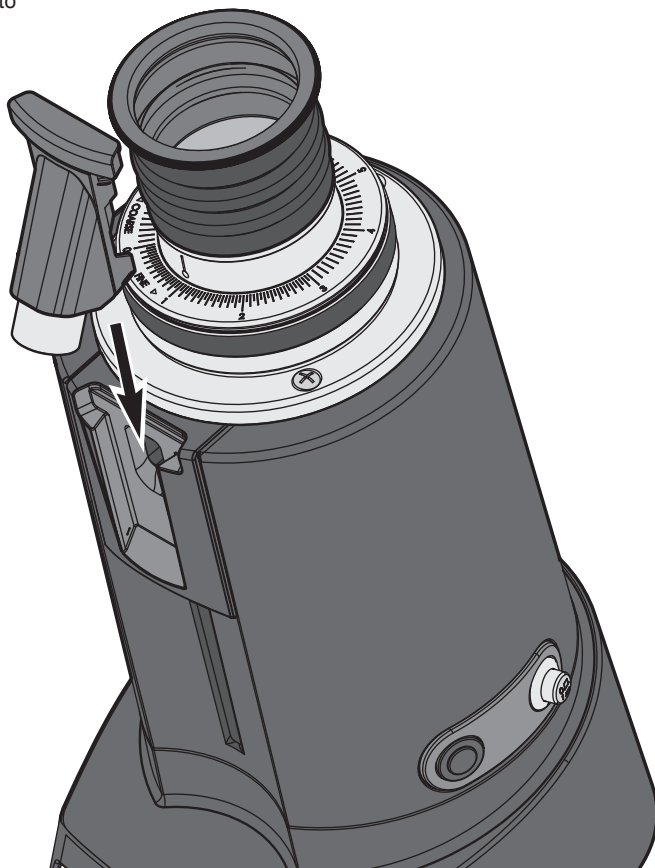

Fig. 3
5. Position the **discharge spout** by inserting it **into its seat** (see Fig. 3).